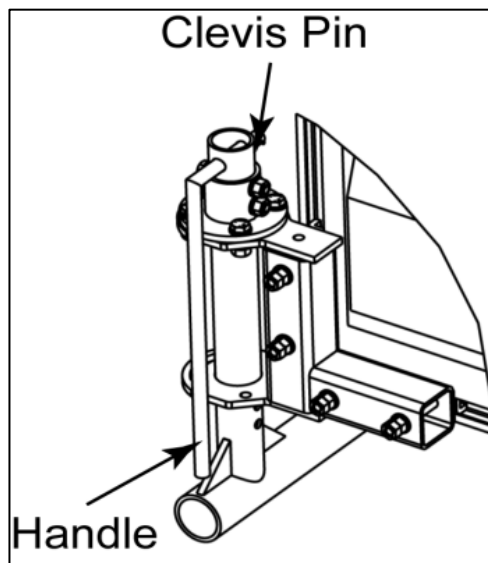

Figure 28: *Handle in Webcam*
13. Insert the handle to the top of the vertical tube and fasten with a clevis pin. Refer to **Figure 28**.